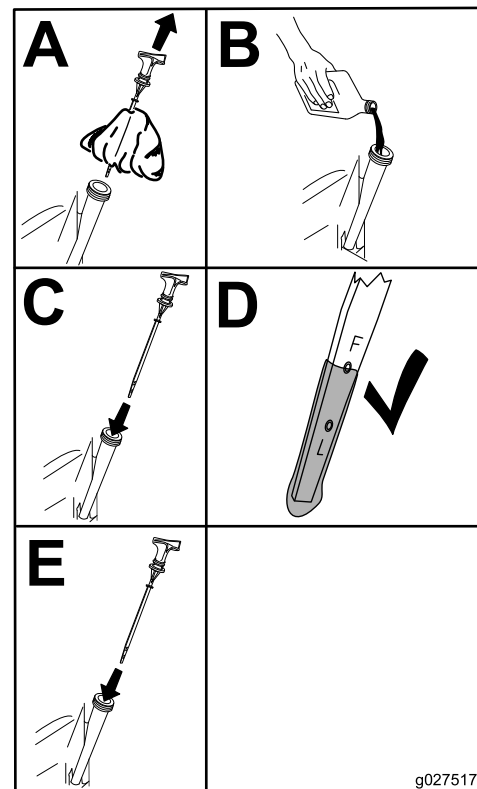

Figure 39
5. Slowly pour approximately 80% of the specified oil into the filler tube (Figure 39).